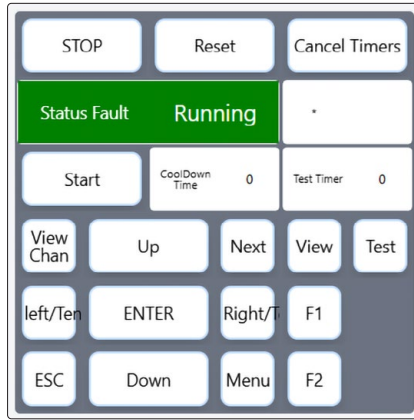
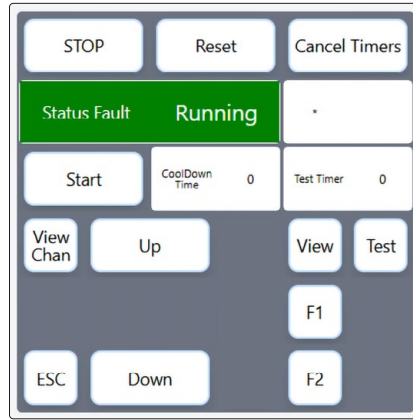

Figure 39
Figure 40
- a. Remove key function buttons, such as Menu, Next, and Enter, to prevent operators from editing or adjusting the DE-3000 AWI through the 7” display. *Figure 39* shows the default keypad block, and *Figure 40* shows the block with key function buttons removed.